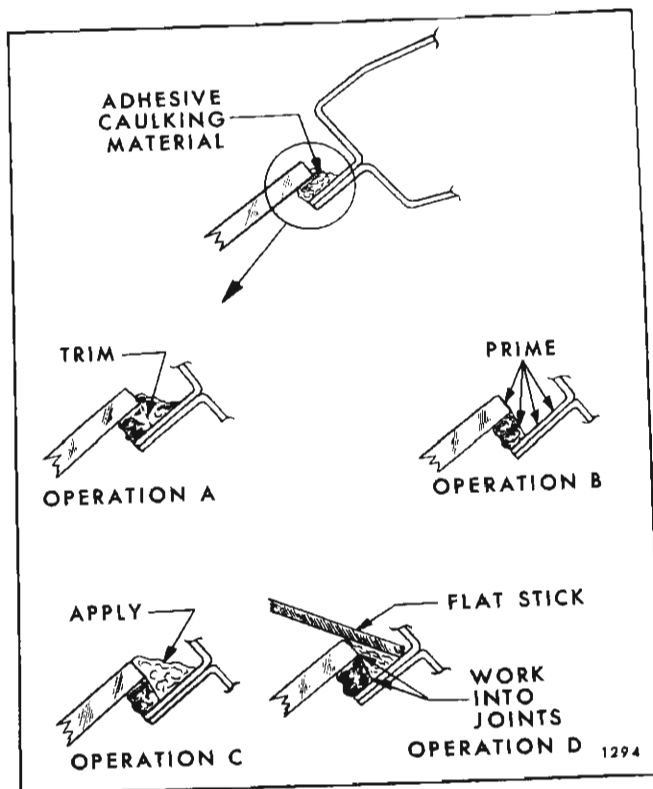

Fig. 1C13—Correction of Adhesive Caulked Glass Installation Waterleaks
7. Immediately after performing Step 6, use flat stick or other suitable flat-bladed tool to work adhesive caulking material well into leak point and into joint of original material and body to effect a watertight seal along entire length of material application (See Operation "D" Fig. 1C13).